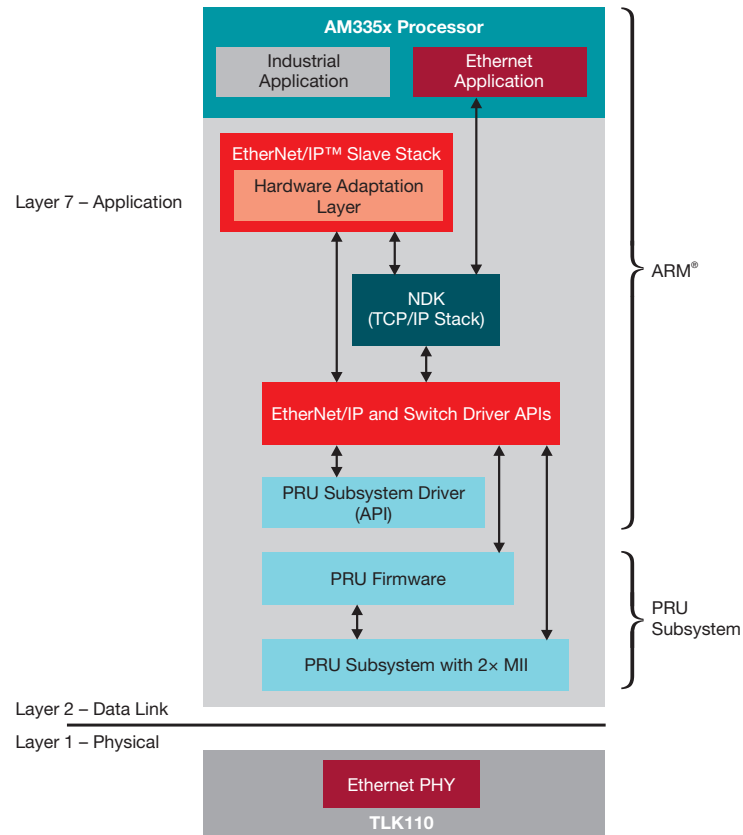

Figure 11: Software architecture for EtherNet/IP slave
As shown in Figure 11, three software components will comprise EtherNet/IP slave implementations on TI Sitara devices: (1) microcode that implements Layer 2 functionality in the PRU; (2) the EtherNet/IP slave stack that runs on the ARM processor; and (3) the industrial application. TI provides additional supporting components such as the protocol adaptation layer and device drivers in its software development kit.